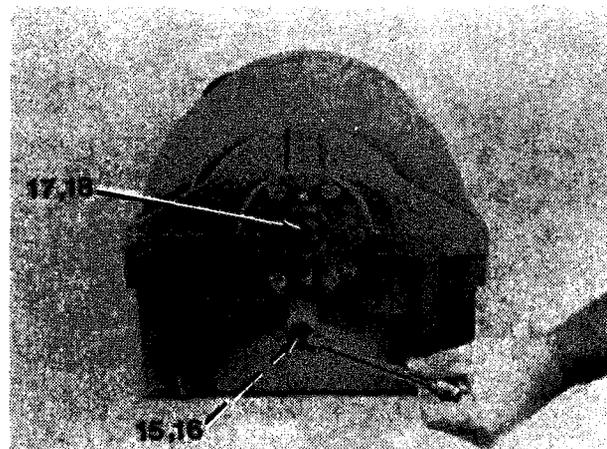

Figure 3-12
1. Start engine and rotate winch drum to align drain plug (15, Figure 3-12) and access hole in base.
4. Remove drain plug (15) and O-ring (16) and drain.
5. Install drain plug (15) and O-ring (16). Remove pipe and oil level plug (17) and O-ring (18).